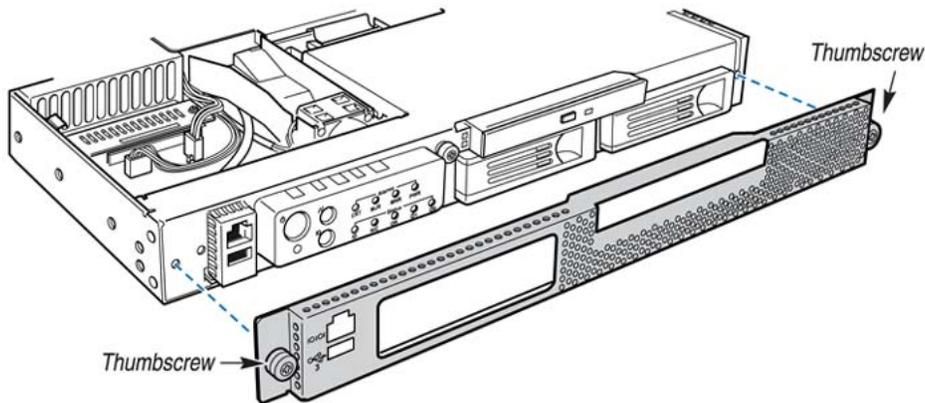

Figure 14: Front bezel
Loosen the thumbscrew fasteners (A) on both sides of the front bezel. You cannot remove the screws from the front bezel. For more details, see Figure 14: Front bezel on page 74.